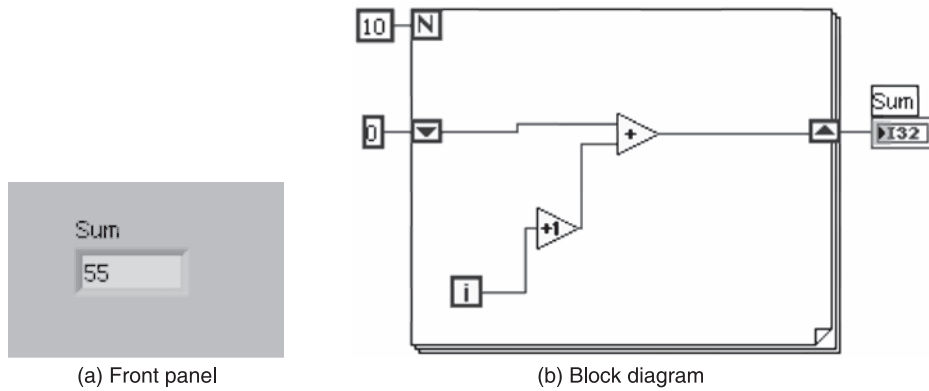

Figure P4.4
**Solution** The front panel and the block diagram to solve the problem are shown in Figures P4.4(a) and P4.4(b).